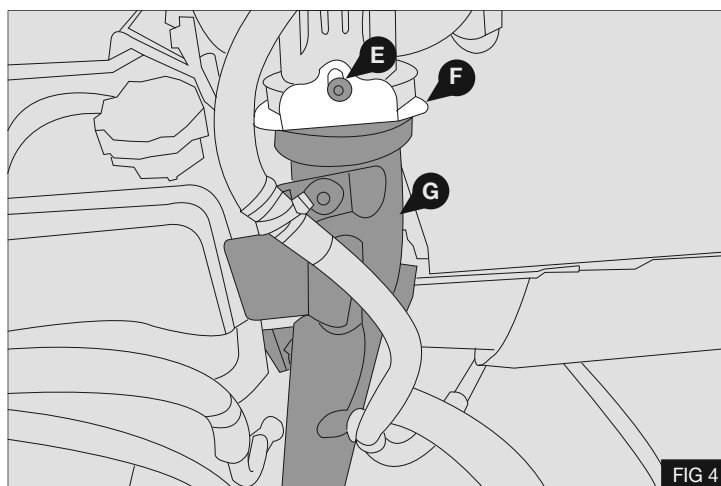

FIG 4
5. Remove and discard the three M6 - E10 Torx bolts securing the intercooler pipe (G) - Fig.4
6. Remove and retain the screw (E) and clip (F) securing the top of the intercooler pipe (G) - Fig-4
7. Remove the intercooler pipe (G) - Fig.4